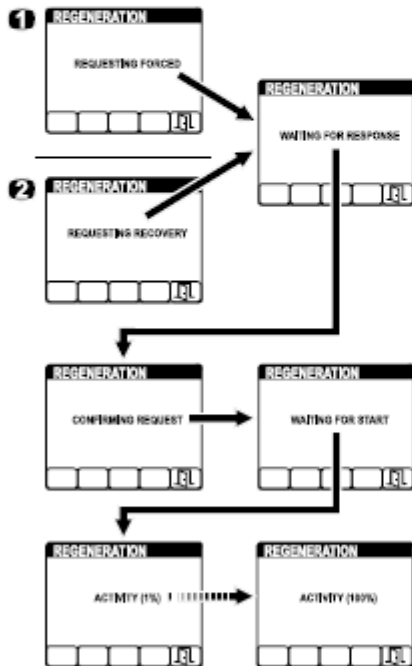

Figure 8
4. The InfoCenter displays a series of screens (Figure 8) as the regeneration processes: